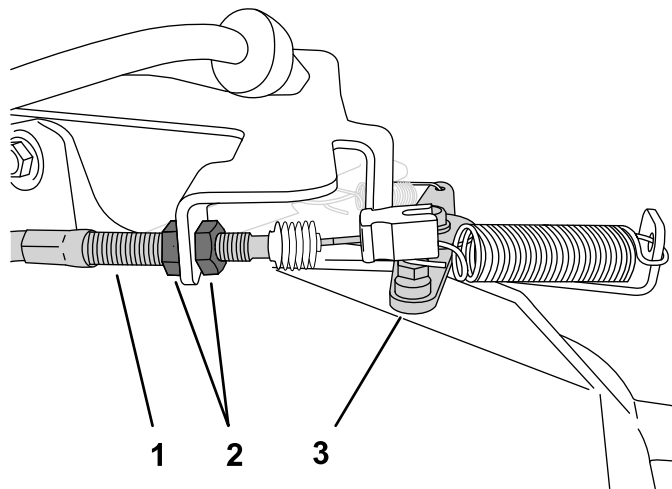

Figure 13
- A. At the throttle cable housing, loosen the forward jam nut and tighten the rear jam nut to increase the low idle (Figure 13).